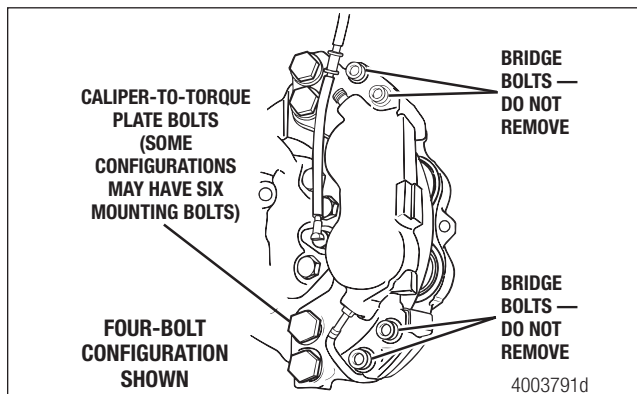

Figure 4.7
5. Remove the caliper-to-torque plate assembly bolts. Do not disassemble the bridge bolts joining the two halves of the caliper. Refer to the Bridge Bolts on page 27. Figure 4.7.
**NOTE:** It is not necessary to remove the bridge bolts to service the brake caliper. Figure 4.7.